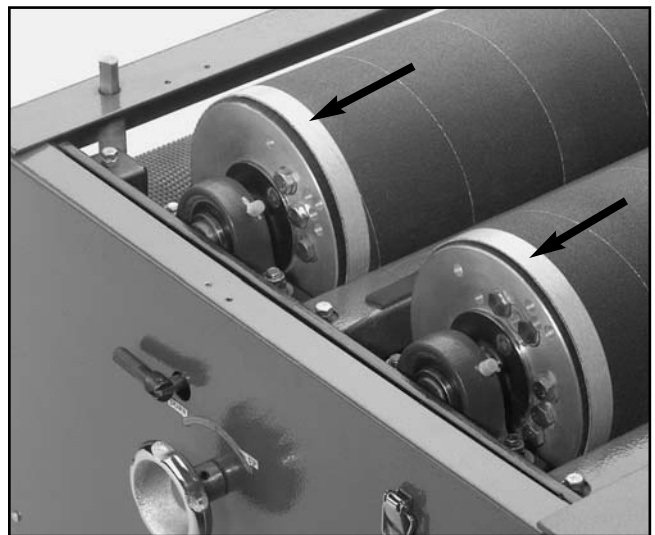

Figure 15. Sandpaper ends taped on Model G1066Z.
6. Tape both ends with $\frac{3}{4}$ " strapping tape, making at least two complete passes so that the second layer is directly on top of the first. See **Figure 15**. Repeat **steps 3-5** with the other drum.